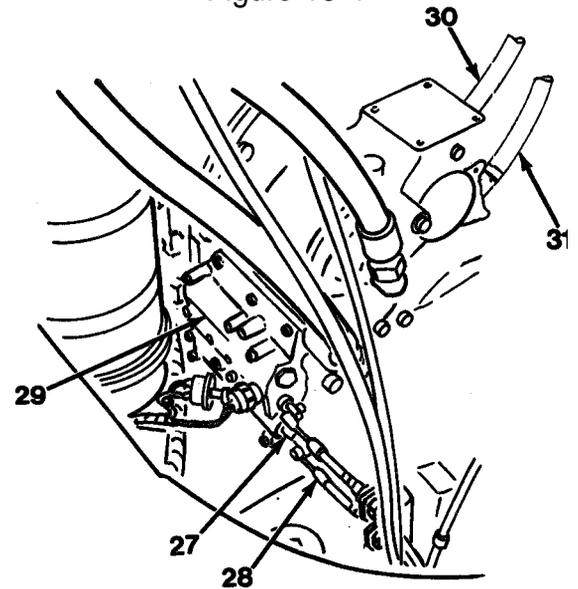

Figure 18-3
6. Connect transmission oil cooler hoses (30) and (31). Using two cotter pins (27), connect two control cables (28) to control valve (29, Figure 18-3) on right-hand side of transmission.